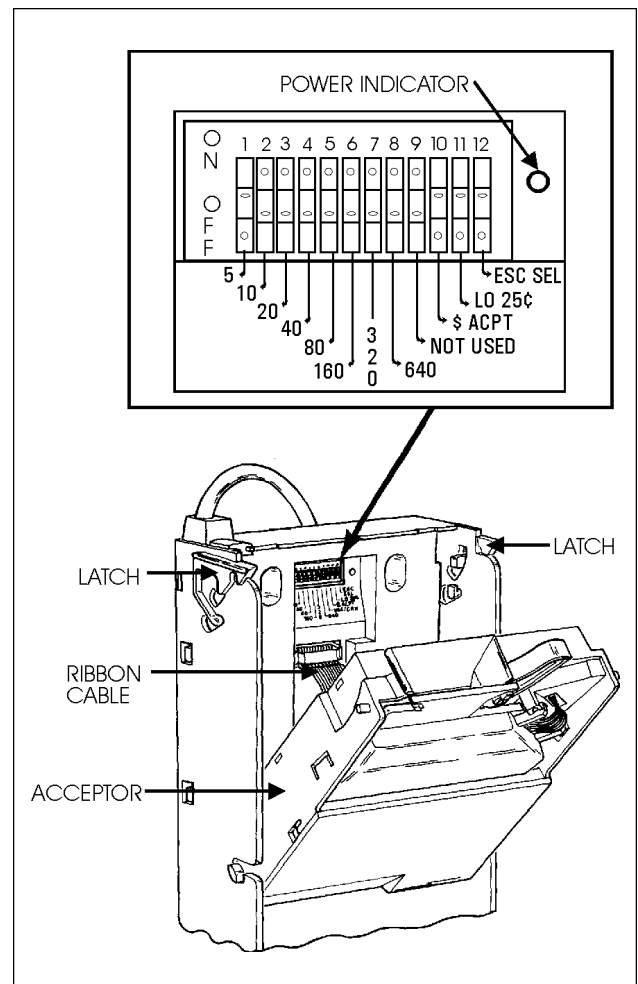

Figure 1
3. Located in the upper portion of the changer is a single switch module with 12 rocker switches (see Figure 1). When the top of the rocker switch is pushed in, it is in the ON position. The switches correspond as follows: